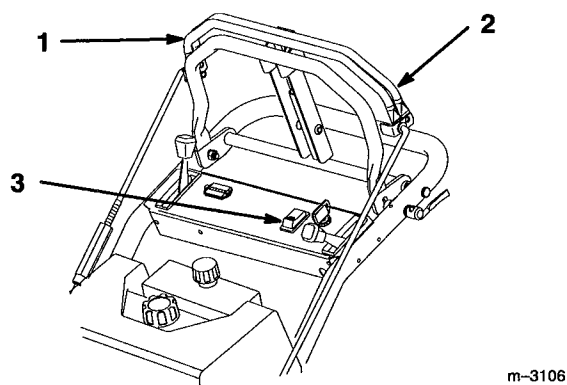

Figure 11
1. Release the upper control bar to stop the machine (Fig. 11).
2. To engage blade, squeeze blade control bail against upper control bar (Fig. 11).
1. Releasing blade control bail to disengage blades (Fig. 11).